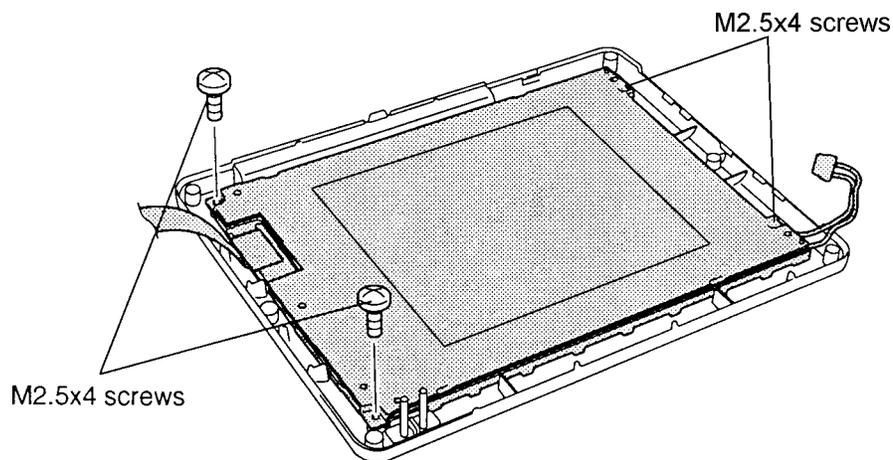

Figure 4-25 Removing the Four Screws
To remove the T200CS's FL, follow the steps below and refer to Figures 4-25 through 4-27.
3. Remove the **four M2.5x4 screws** securing the **FL unit** and **LCD panel** to the LCD cover (Figure 4-25).
To install the T200CS's FL, follow the steps below and refer to Figures 4-25 through 4-27.
4. Secure the **FL unit** with **four M2.5x4 screws** (Figure 4-25).